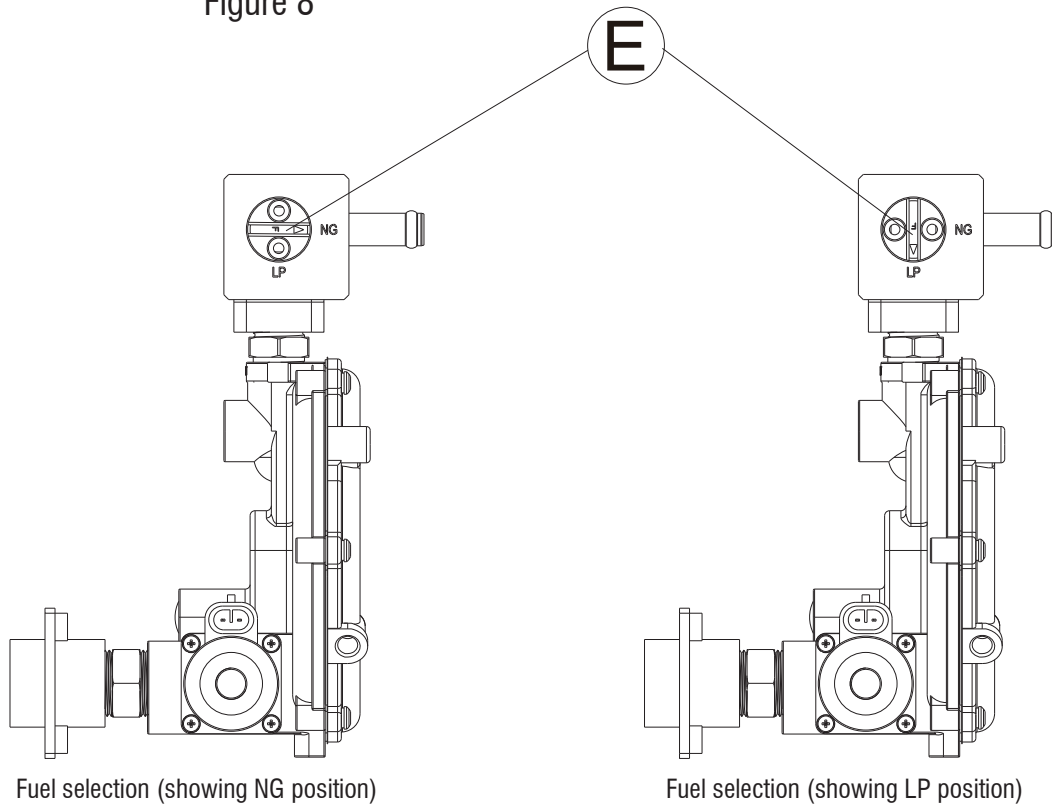

Figure 9
- A . For NG, rotate the control handle (E, Figure 9) on the gas conversion valve (A) until the arrow on the control handle (E) aligns with the 'NG' mark on the gas conversion valve (A).
- B . For LP, rotate the control handle (E, Figure 9) on the gas conversion valve (A) until the arrow on the control handle (E) aligns with the 'LP' mark on the gas conversion valve (A).